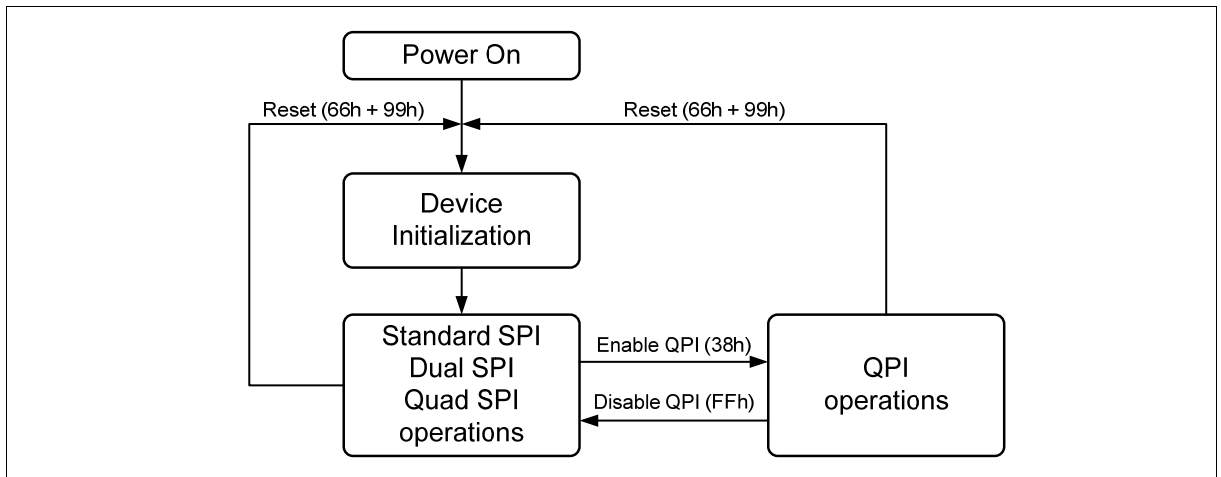

Figure 2 FM25Q08A Serial Flash Memory Operation Diagram
The FM25Q08A supports Quad Peripheral Interface (QPI) operations only when the device is switched from Standard/Dual/Quad SPI mode to QPI mode using the “Enable QPI (38h)” instruction. The typical SPI protocol requires that the byte-long instruction code being shifted into the device only via DI pin in eight serial clocks. The QPI mode utilizes all four DQ pins to input the instruction code, thus only two serial clocks are required. This can significantly reduce the SPI instruction overhead and improve system performance in an XIP environment. Standard/Dual/Quad SPI mode and QPI mode are exclusive. Only one mode can be active at any given time. “Enable QPI (38h)” and “Disable QPI (FFh)” instructions are used to switch between these two modes. Upon power-up or after a software reset using “Reset (99h)” instruction, the default state of the device is Standard/Dual/Quad SPI mode. To enable QPI mode, the non-volatile Quad Enable bit (QE) in Status Register-2 is required to be set. When using QPI instructions, the DI and DO pins become bidirectional  $DQ_0$  and  $DQ_1$ , and the WP# and HOLD# pins become  $DQ_2$  and  $DQ_3$  respectively. See Figure 2 for the device operation modes.